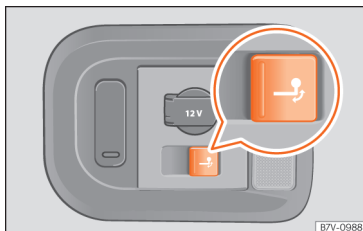

Fig. 279 On the right side of the luggage compartment: button for unlocking the tow hook.
- Pull the **»»» Fig. 279** button briefly. The tow hook unlocks electrically and automatically turns outwards. The button's control lamp flashes.
- Pull the **»»» Fig. 279** button briefly. The tow hook unlocks electrically.
- If the warning light on the button **»»» Fig. 279 → flashes**, this means that the tow hook has not been attached properly or is damaged **»»» ⚠**.
- If the warning lamp **»»» Fig. 279 → remains** on with the rear lid open, the tow hook is correctly in place both when extracted and when covered.
- **Never press the **»»» Fig. 279** button when there is a trailer hooked to the vehicle or when a carrier system or other accessories are mounted on the tow hook.**